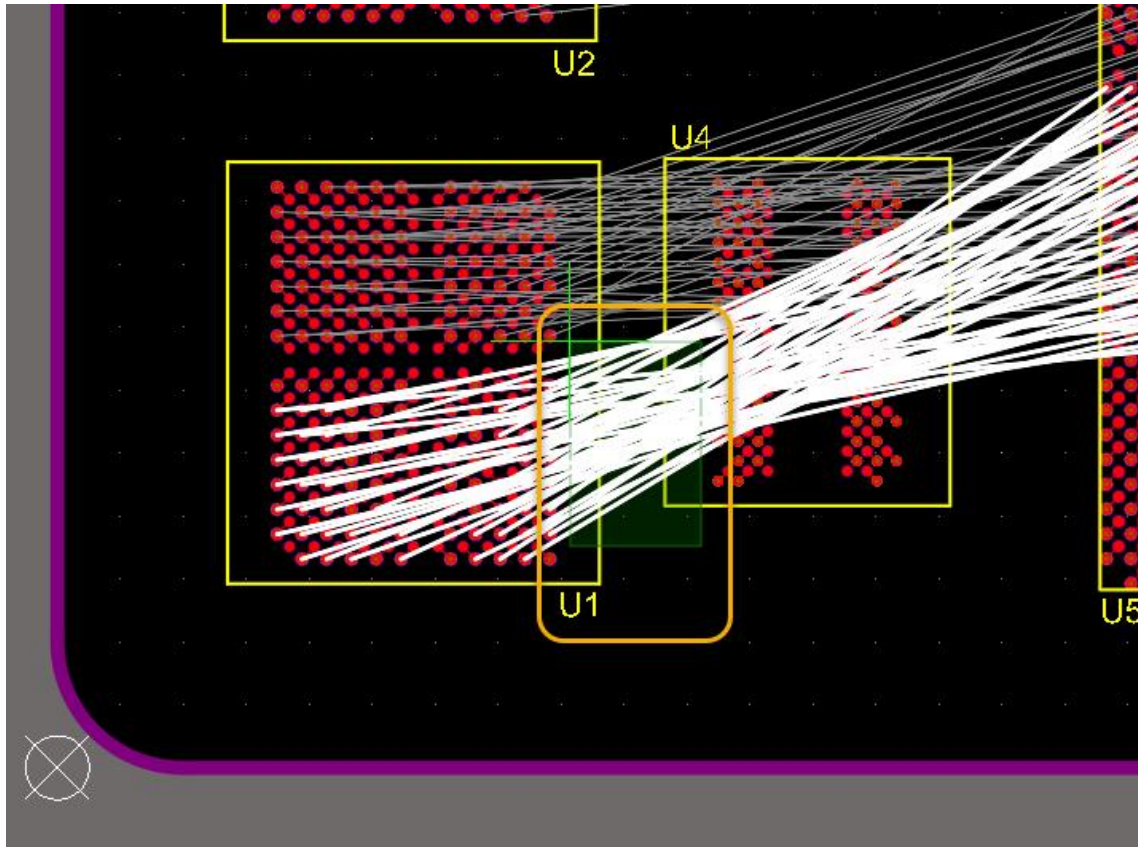

Figure 8. Select connections on U1
27. Holding down the **ALT** key, use the left mouse button and sweep from right to left on the lower bank of connections on U1, as shown in Figure 8.